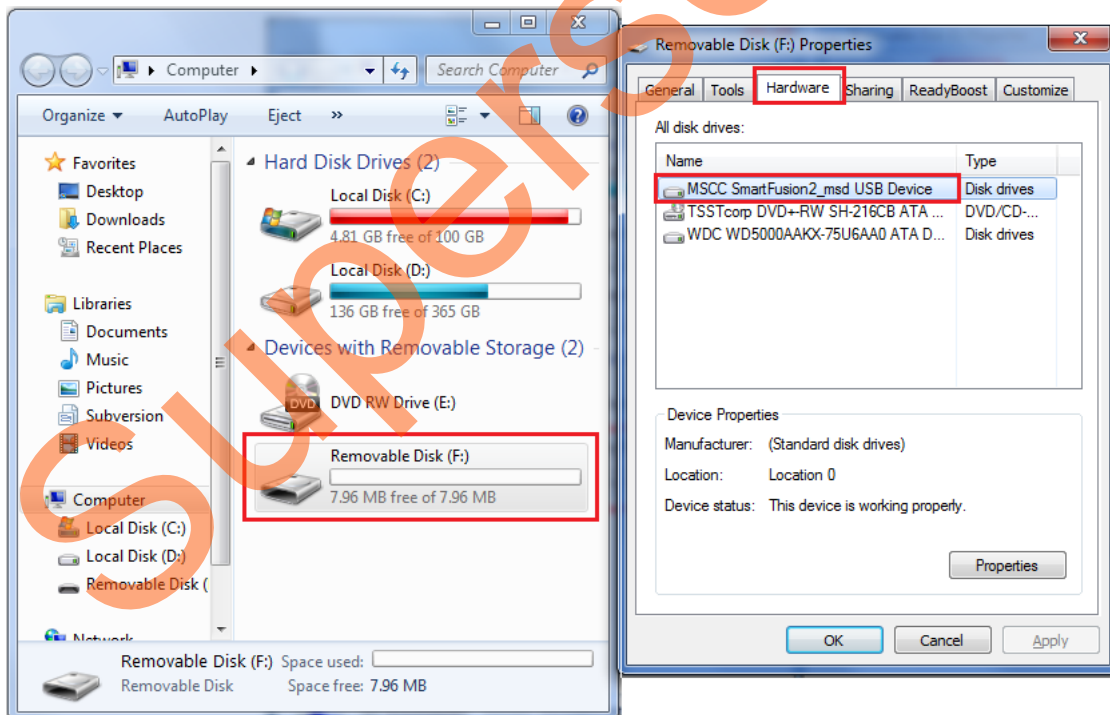

Figure 9 • SmartFusion2 USB Device Detection on Host PC/Laptop
- Observe a new disk drive/volume in the host PC and properties of this disk drive (right-click the drive and select properties) as shown in Figure 9 to verify the USB device functionality of the SmartFusion2 USB OTG controller.